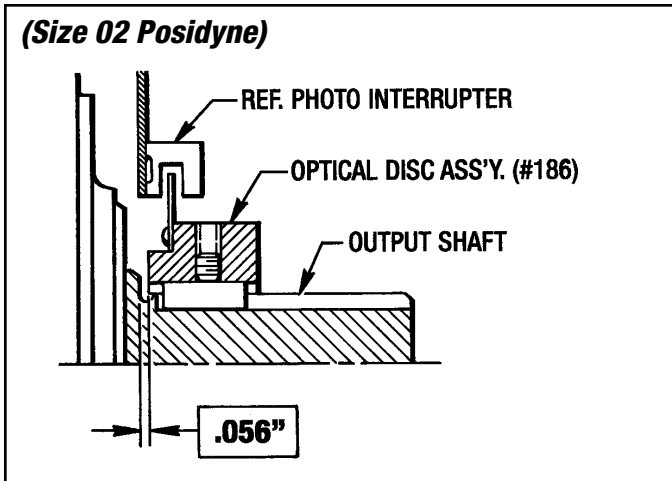

Figure 6.3 - Optical Disc and Hub Positioning (Size 02 Posidyne)
- Slide the Optical Disc Assembly (#186) onto the output shaft and position as shown in Figure 6.3. The positioning of this Optical Disc Assembly must be accurate.